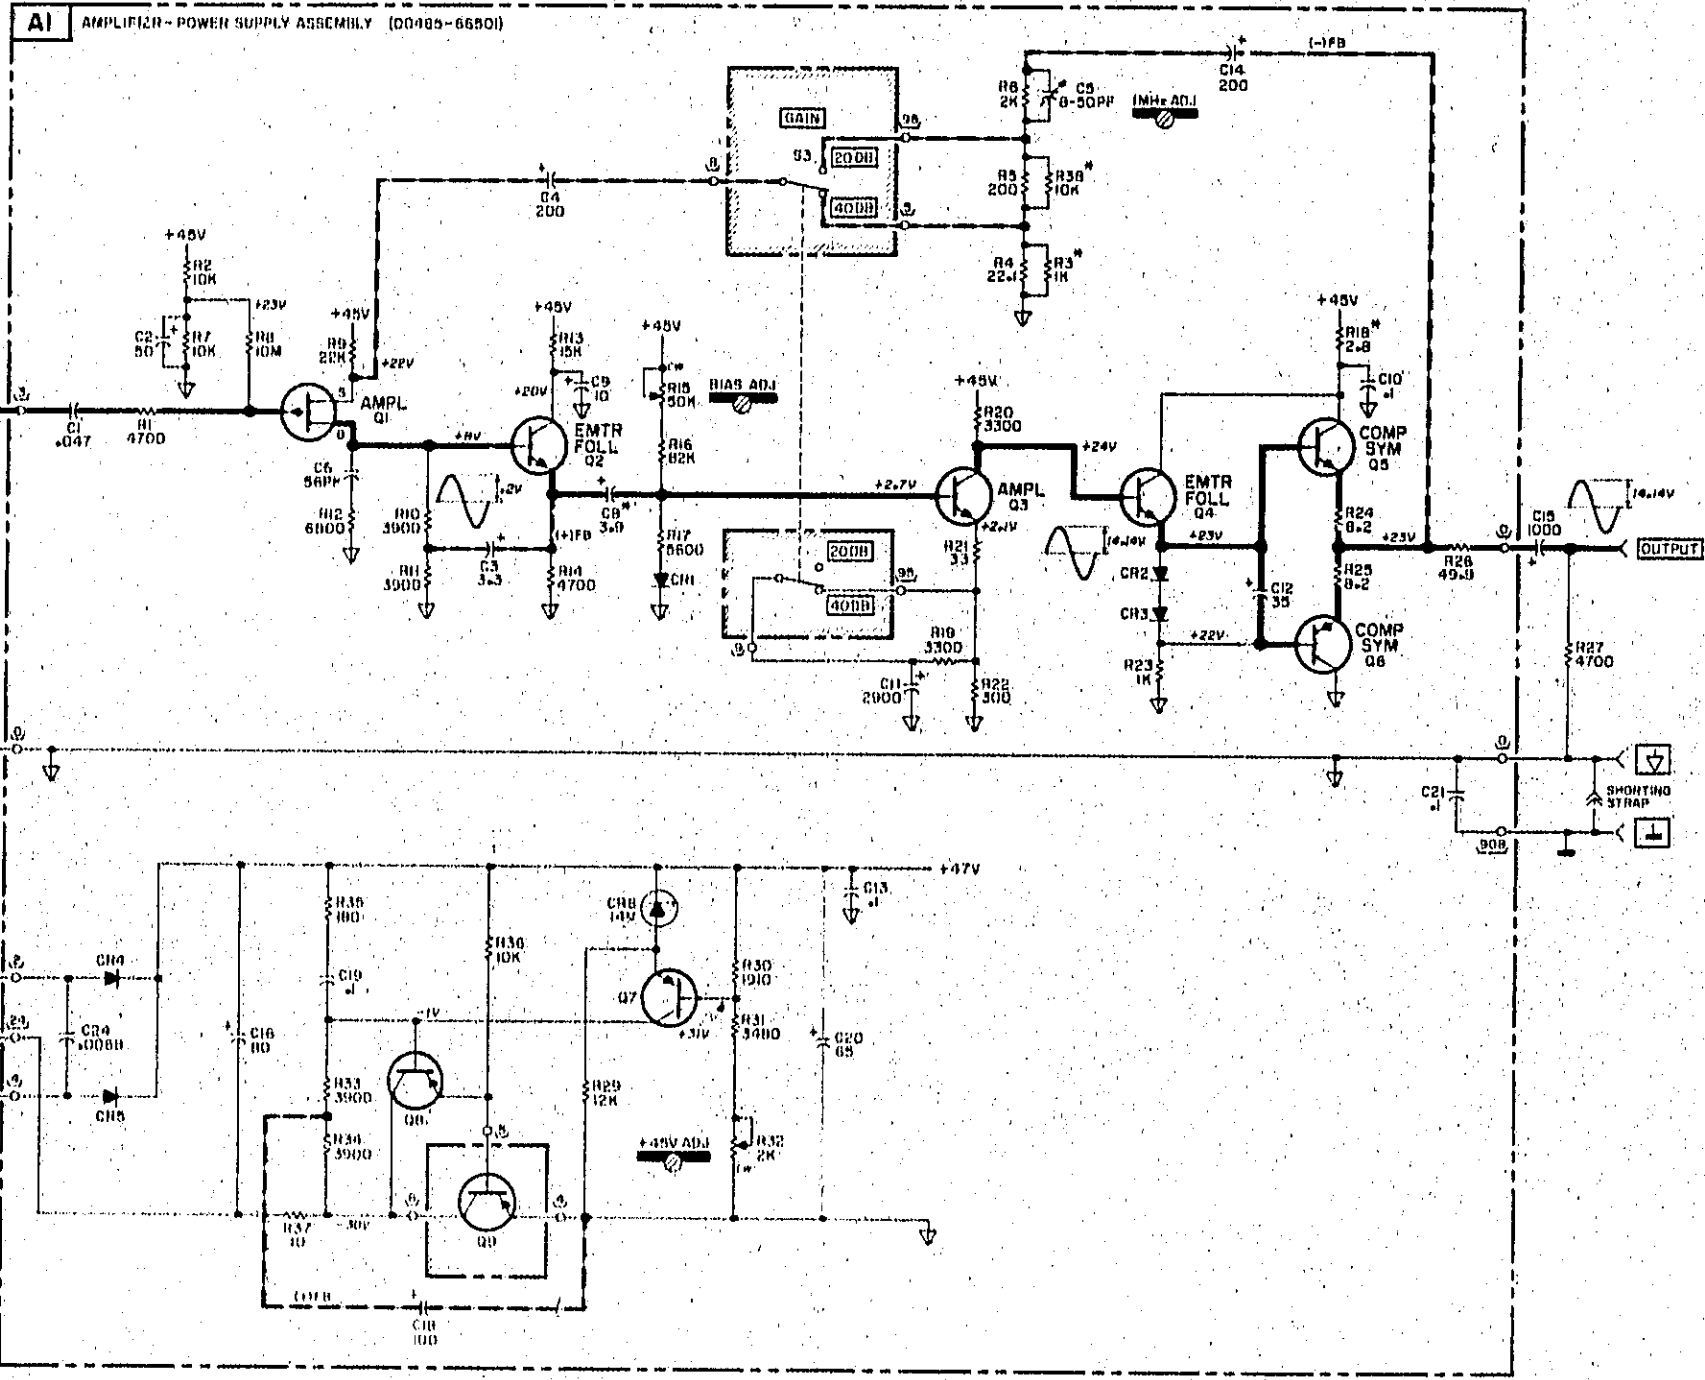

Figure 5-5. Amplifier Schematic. 5-7/5-8
① Remove the + side of C14 from the circuit board. Set Model 465A GAIN to 40 db. Apply a 1.0 mV 2kHz input signal.	⑦ Check Q4, Q5 and Q6. Refer to Figure 5-5 for typical dc voltage levels.
② Measure the dc voltage at the + side of C20. Should be +45 v (± 1 v). If correct, proceed to ③; if incorrect, go directly to ⑨.	⑧ Check Q1, Q2 and Q3. Refer to Figure 5-5 for typical dc voltage levels.
③ Observe the ac waveform at the Model 465A OUTPUT. Should be a sine wave with peak voltage of approximately 12.7 v (9 v rms). If incorrect, proceed to ④.	⑨ Disconnect jumper wire at the + side of C20, removing power supply from circuit. Measure dc voltage at the + side of C20. Should be +45 v (± 1 v). If correct, proceed to ⑩; if incorrect, go directly to ⑪.
④ Observe the ac waveform at the base of Q4. Should be a sine wave with peak voltage of approximately 12.7 v (9 v rms). If correct, proceed to ⑤; if incorrect, go directly to ⑧.	⑩ Connect a DC Power Supply (-hp- Model 6220B) to the collectors of Q5 and Q6. Connect the high side to the collector of Q5; the low side to the collector of Q6. Adjust the power supply output to +45 v; set current limit to 75 ma. If power supply indicates current limit, check Q4, Q5, Q6 and CR2-3 for short.
⑤ Observe the ac waveform at the junction of R24 and R25. Should be a sine wave with peak voltage approximately 12.7 v (9 v rms). If correct, proceed to ⑥; if incorrect, go directly to ⑦.	⑪ Check Model 465A power supply to include T1 secondary, Q7, CR6, Q8 and Q9. Refer to Figure 5-5 for typical dc voltage levels.
⑥ Check R26, R27 and C15.